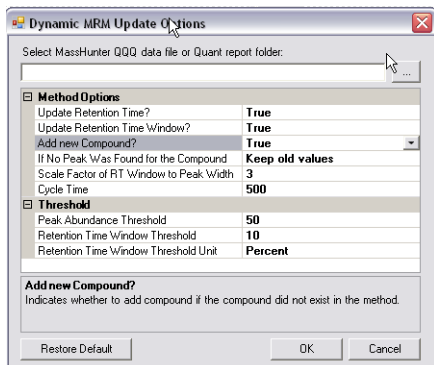

Figure 13 Dynamic MRM Update Options
- 4 Click **Update Method** to open the Dynamic MRM Update Options dialog box shown in Figure 13.
8 Repeat step 3 through step 6 until all the data files that contain the standards that will be used in the one Dynamic MRM method have been added. Make sure nothing is changed in the method and that all the **Method Options** parameters in the Dynamic MRM Update Options dialog box (Figure 13) are set to **True** and **If No Peak Was Found for the Compound** is set to **Keep old values**.
Note that the cycle time in the Dynamic MRM Update Method Options dialog box (Figure 13 on page 26) is applied only the first time the method is created using the Update Method function. After that, the cycle time must be manually typed into the MS QQQ > Acquisition tab.